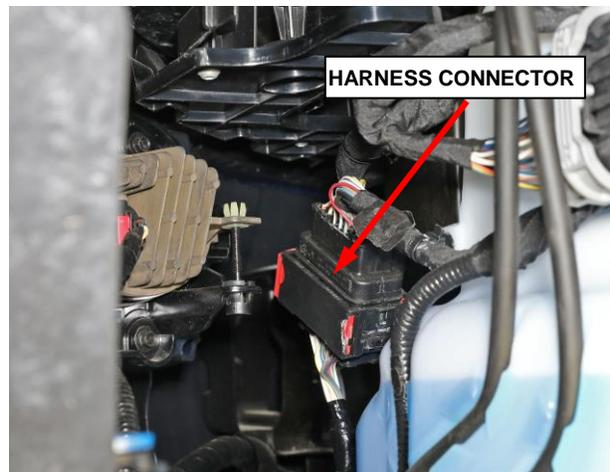

Figure 11 – Wire Harness Connector
16. Disconnect the wire harness connector (Figure 11).
33. Connect the electrical connector (Figure 11).